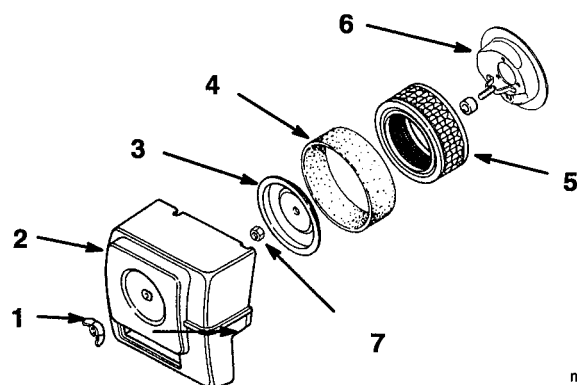

Figure 15
3. Clean around the air cleaner to prevent dirt from getting into the engine and causing damage. Remove the wing nut and air cleaner cover (Fig. 15).
4. Unscrew the nut and remove the cover, foam element and paper element (Fig. 15).
5. Carefully slide the foam element off the paper element (Fig. 15).
1. Carefully slide the foam element onto the paper air cleaner element (Fig. 15).
2. Place the air cleaner assembly into air cleaner base. Slide cover onto rod and secure with nut (Fig. 15).
3. Install the air cleaner cover and secure with wing nut (Fig. 15).